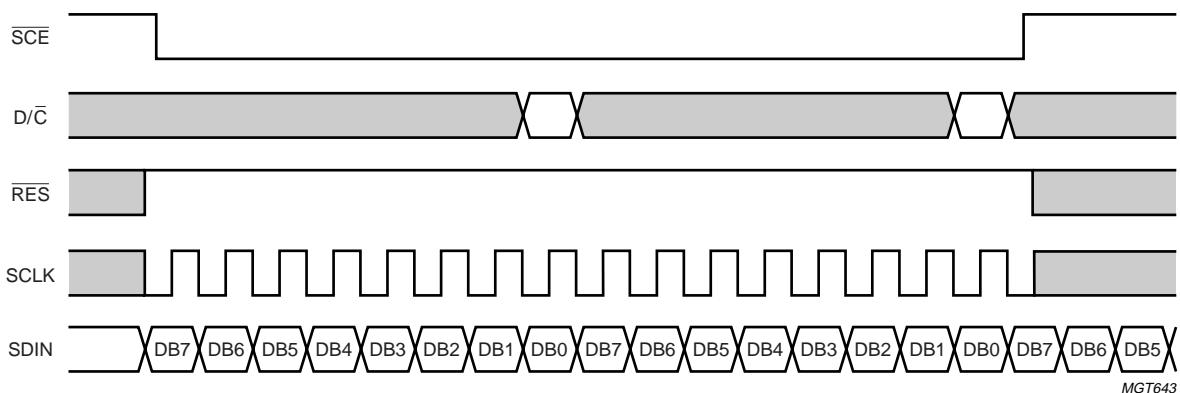

Fig.12 Serial interface enable (SCE).
- Or the last bit is latched when pad SCE goes HIGH (see Fig.12).